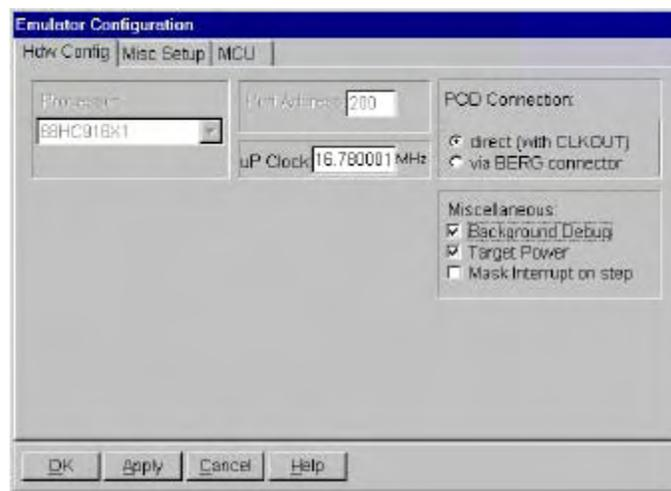

Figure 88. Emulator Hardware Configuration
2. From the main menu click **Config, Emulator**. The **Emulator Configuration** menu should appear with the **Hdw Config** tab already selected (Figure 88).